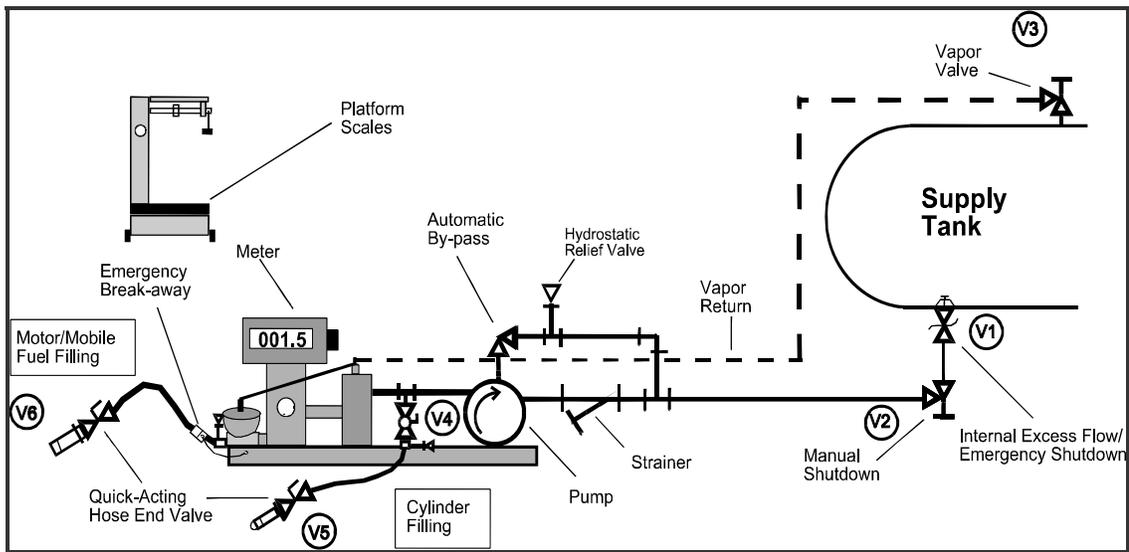

Figure 5.1.10b - Typical Propane Dispenser
1. In order for the meter to operate and pump propane into an ASME tank, the motor/mobile fuel filling hose end valve must be connected to the ASME tank filler valve and valves V1, V2, V3 and V6 (shown in Figure 5.1.10b) must be in the open position.